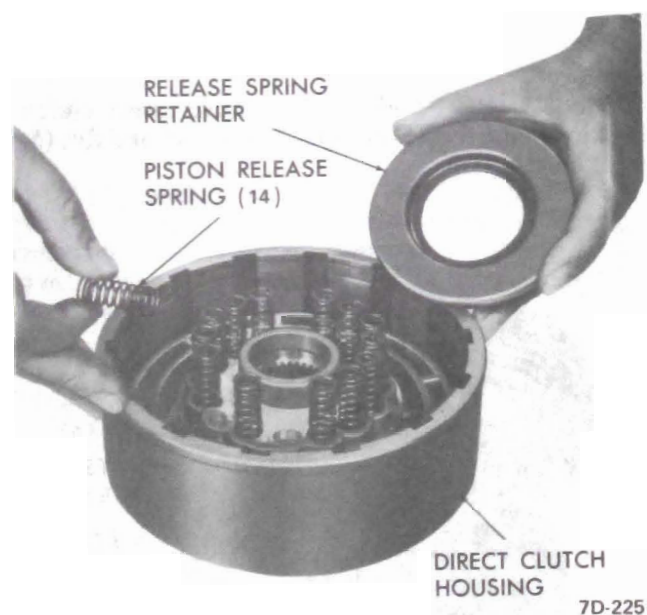

Figure 7D-152
9. Remove inner seal from piston. See Figure 7D-156.